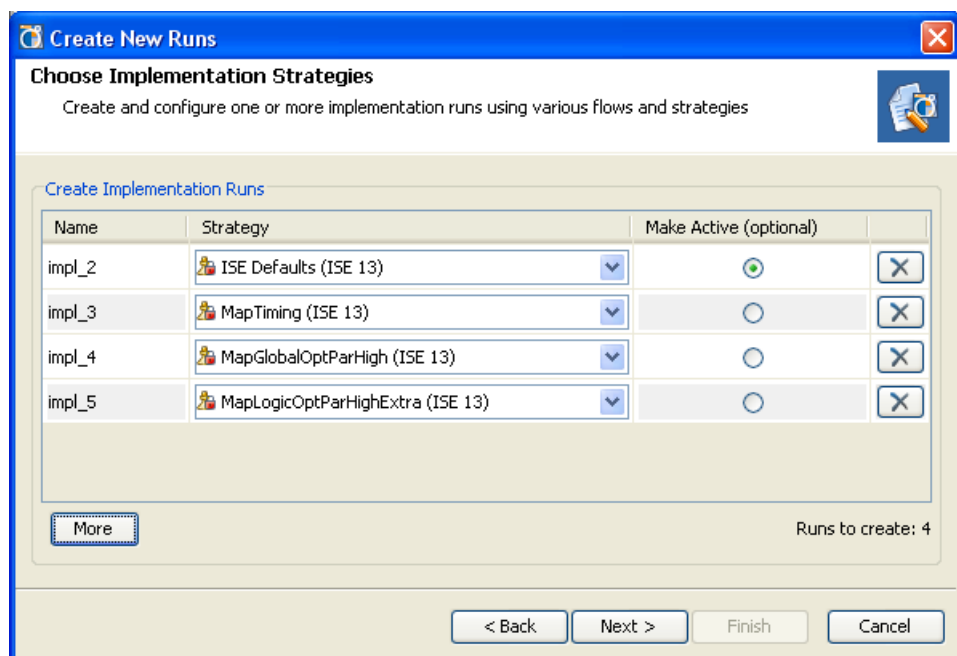

Figure 9-18: Choose Synthesis Strategies
3. Click **Next** to bring up the **Choose Synthesis Strategies** or **Choose Implementation Strategies**, as shown in Figure 9-18.